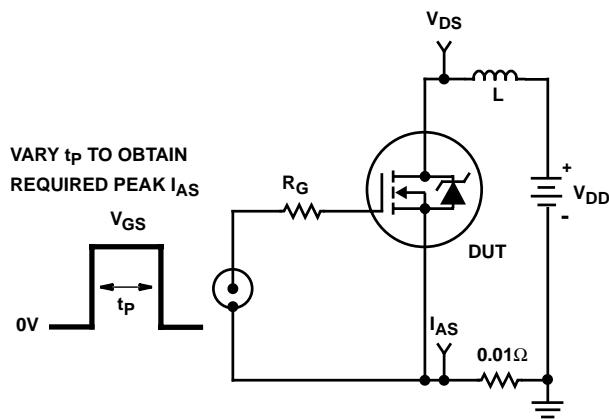

FIGURE 15. UNCLAMPED ENERGY TEST CIRCUIT
4. $V_{DD} = 20\text{V}$, start $T_J = 25^\circ\text{C}$, $L = 12.5\text{mH}$, $R_G = 50\Omega$, peak $I_{AS} = 3.5\text{A}$ (Figures 15, 16).